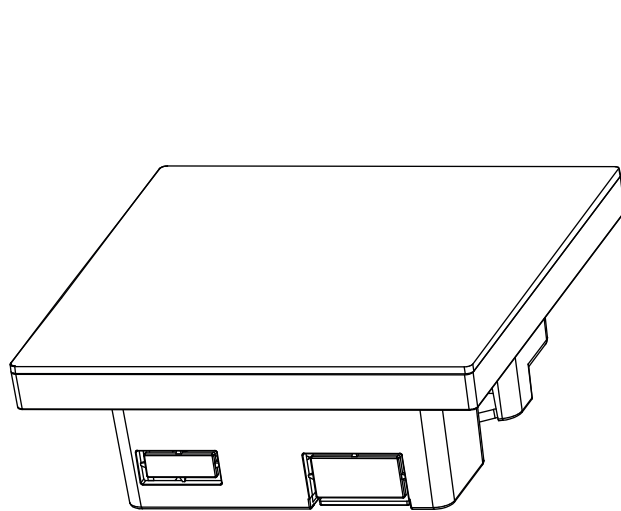

FIGURA 1
- 1 - ESTRARRE MANUALMENTE IL FRONTALE IN VETRO (FIGURA 1)